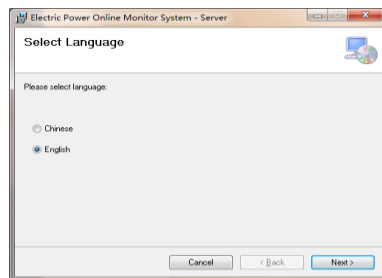

Fig. 3.1
1). Double click setup.exe to enter the interface of system installation. Shows as Fig. 3.1